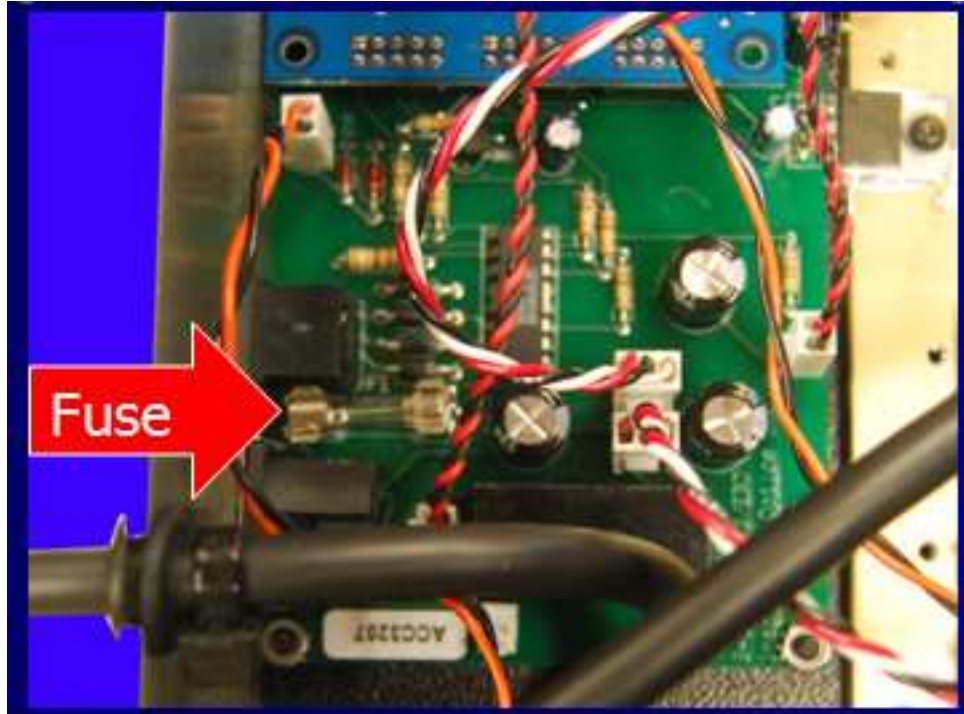

Figure D-7: Location of Fuse
- b) Remove the fuse (Figure D-7).